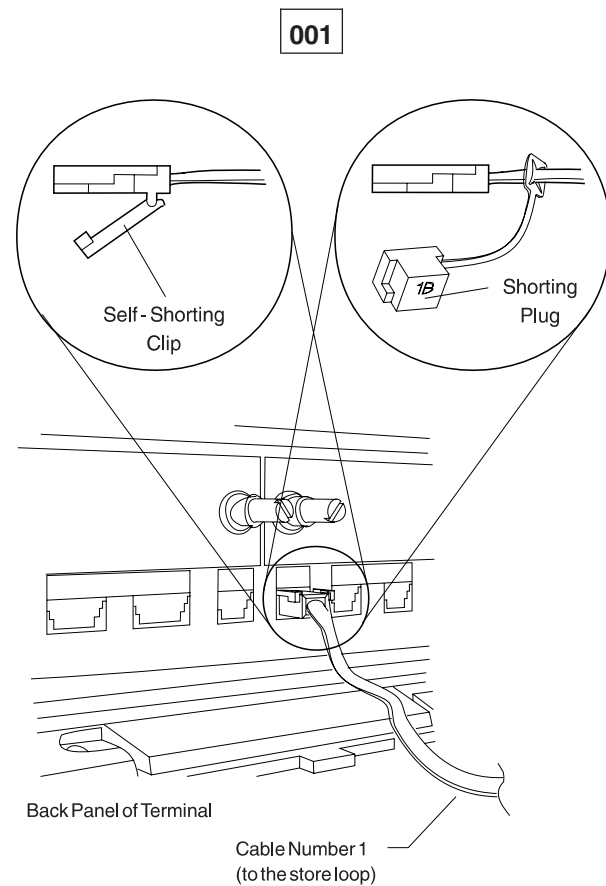

Figure 28. Mod1 terminal Store Loop Cable 1 and Shorting Plug 1B
- Attach shorting plug 1B to the terminal-end of the cable. See Figure 28 on page 464.